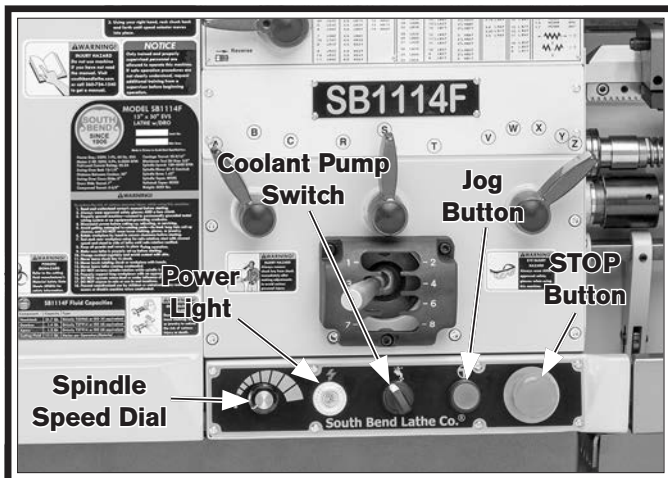

Figure 8. Control panel components.
5. Push the STOP button on the control panel (see **Figure 8**), and point the coolant nozzle into the chip pan.
8. Rotate the spindle speed dial (see **Figure 8**) all the way counterclockwise to set it at the lowest speed for startup.